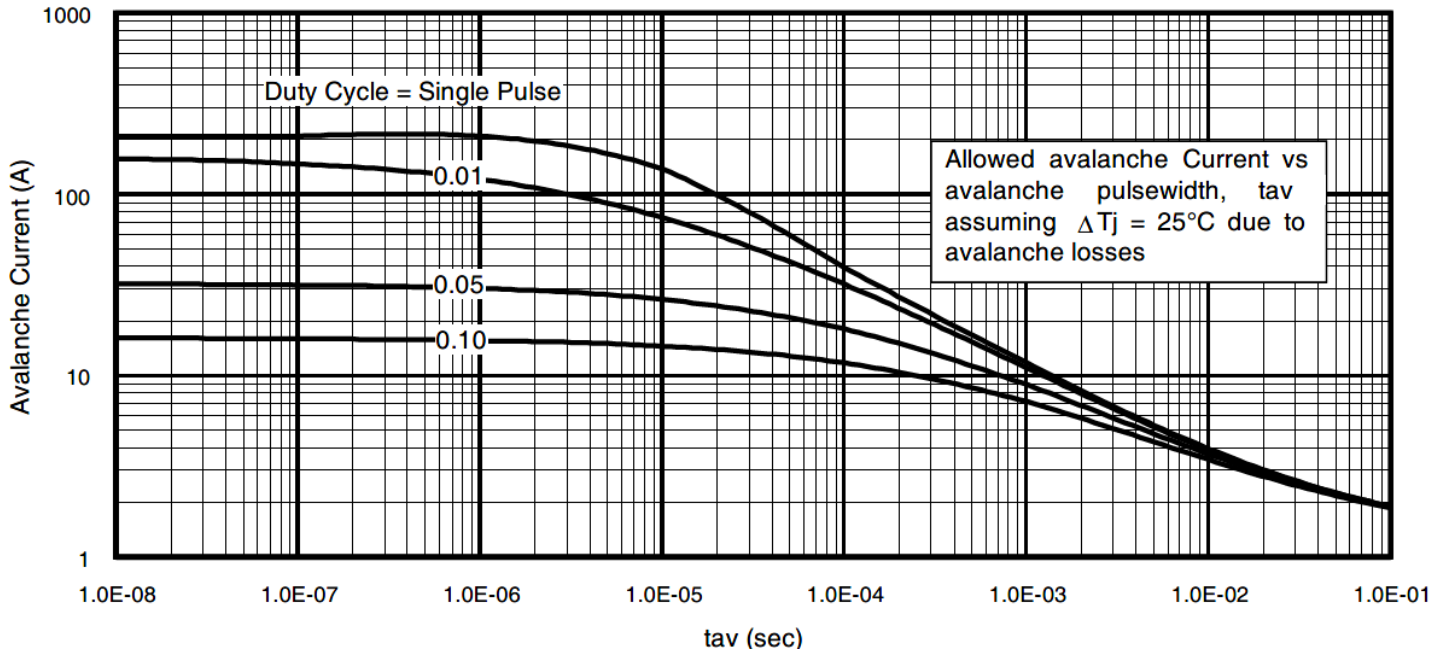

Fig 15. Typical Avalanche Current vs. Pulsewidth
Notes on Repetitive Avalanche Curves , Figures 15, 16:
7. ΔT = Allowable rise in junction temperature, not to exceed Tjmax (assumed as 25°C in Figure 15, 16).